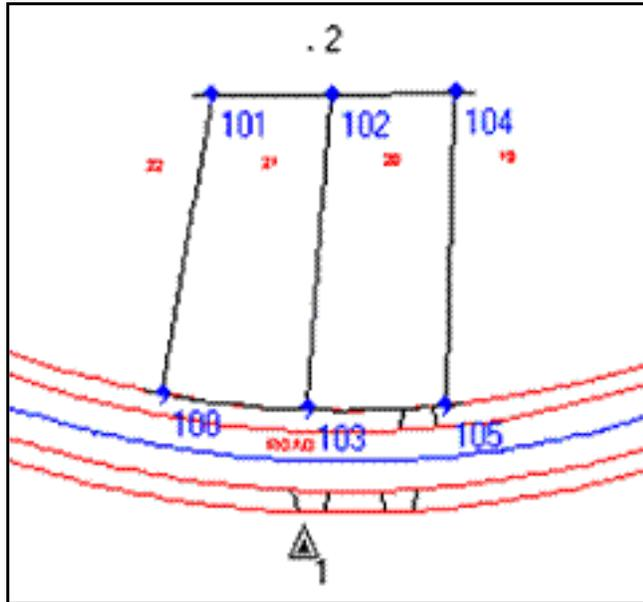

Figure 1.1 Demonstration survey area
4. The survey area for the demonstration uses an area between point 1 and 2. See Figure 1.1.